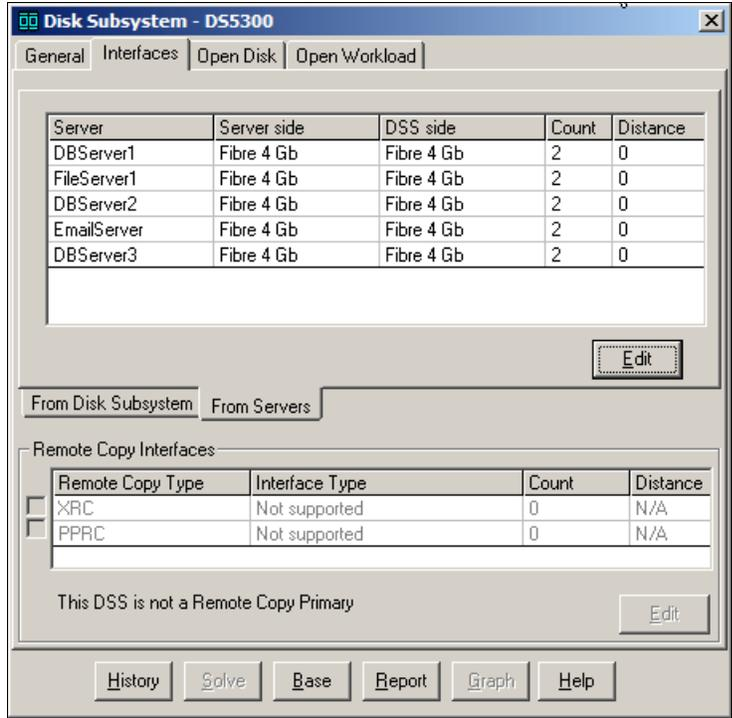

Figure 10-26 Host Interfaces
- ▶ The *Interfaces* tab is used to describe the connections from the servers and the storage subsystem. As shown in Figure 10-26, you can specify the speed and the number (Count) of interfaces. In this example, we have selected 4 Gbps as data rate, but you can select other speeds as well, by selecting one or more rows and clicking the **Edit** button.